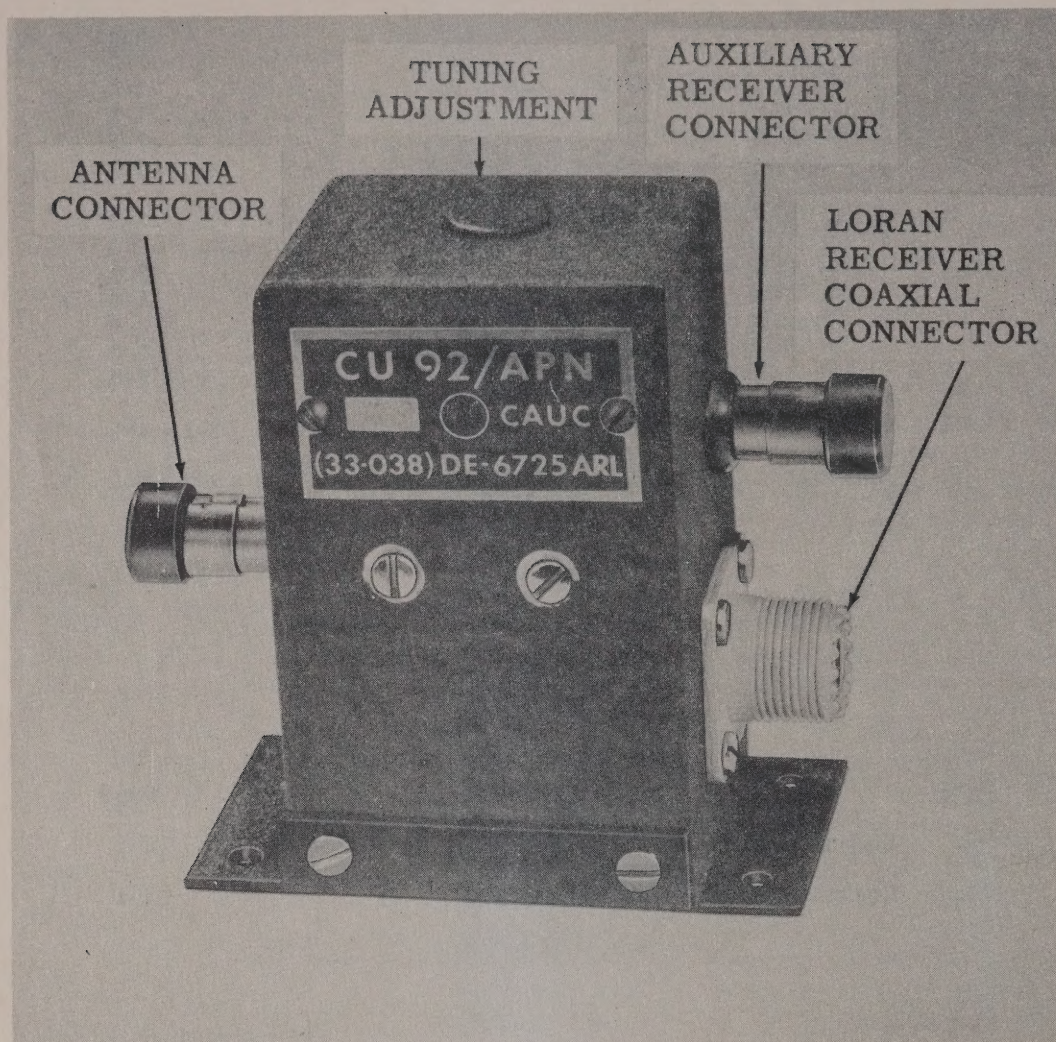

Figure 1-1. Antenna Coupling Unit CU-92/APN -- Front View
a. Antenna Coupling Unit CU-92/APN is an impedance matching device designed to permit the effective operation of a Loran receiver and an auxiliary receiver from any fixed aircraft antenna. (See figure 1-1.)